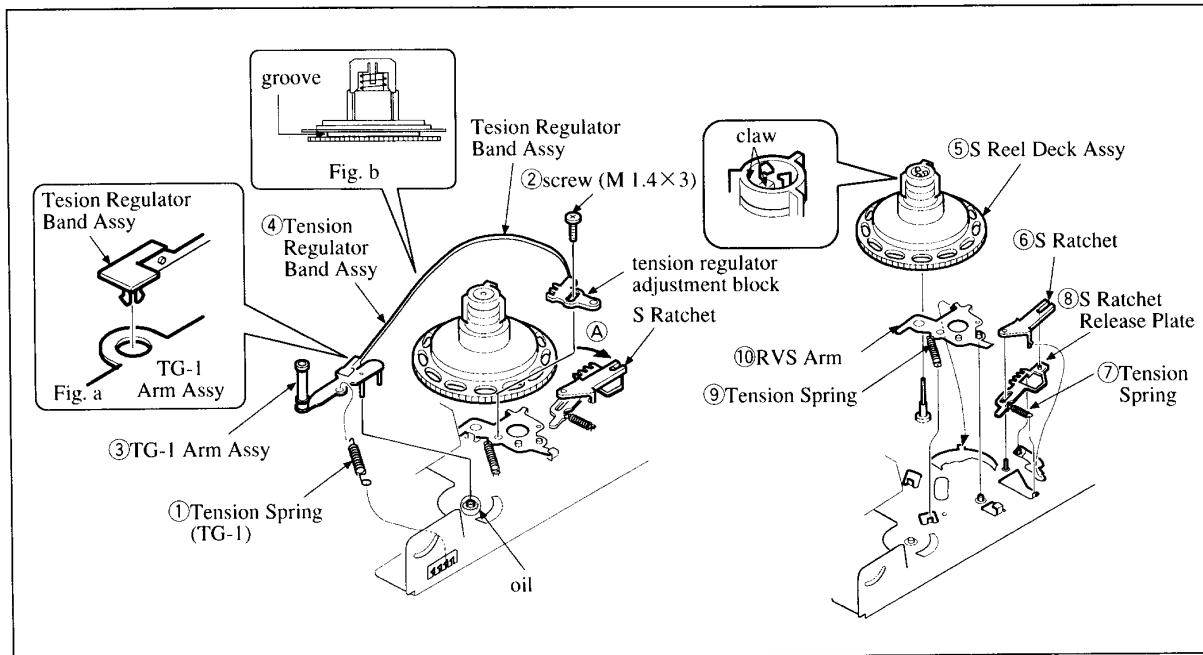

Fig. 12
**3-7. Tension Regulator Band Assy, TG1 Arm Assy, S Reel Table Assy, S Ratchet, S Ratchet Release Plate, RVS Arm (Refer to Fig. 12)**